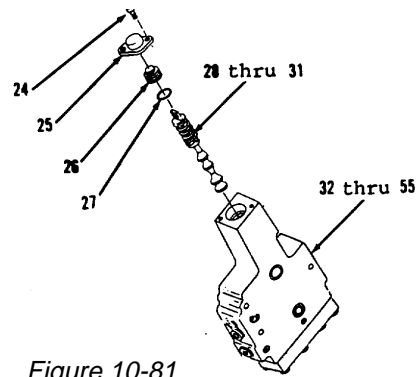

Figure 10-81.
13. Remove two bolts (24) and lock (25, Figure 10-81).